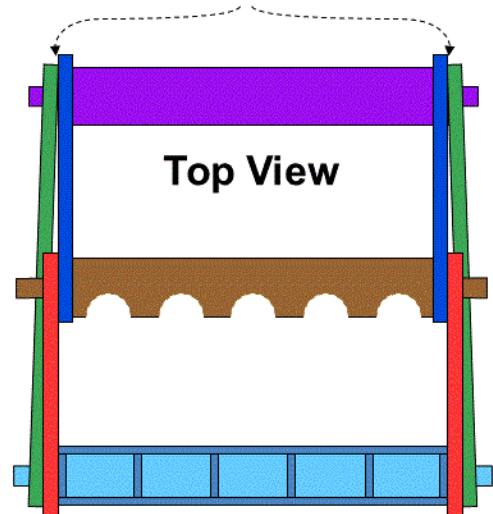

Figure 8
1. Assemble the lance rack pieces, with the back legs first (on the top separator and rear brace), then the base holder and front legs, and then the side braces. The side braces will be angled from front leg to the back leg because the front legs are not directly in front of the back legs. See figure 8. If you don't want the side braces angled, you will need to lengthen the tenons on the rear brace and insert a spacer block (the thickness of the legs) between the back leg and the side brace.